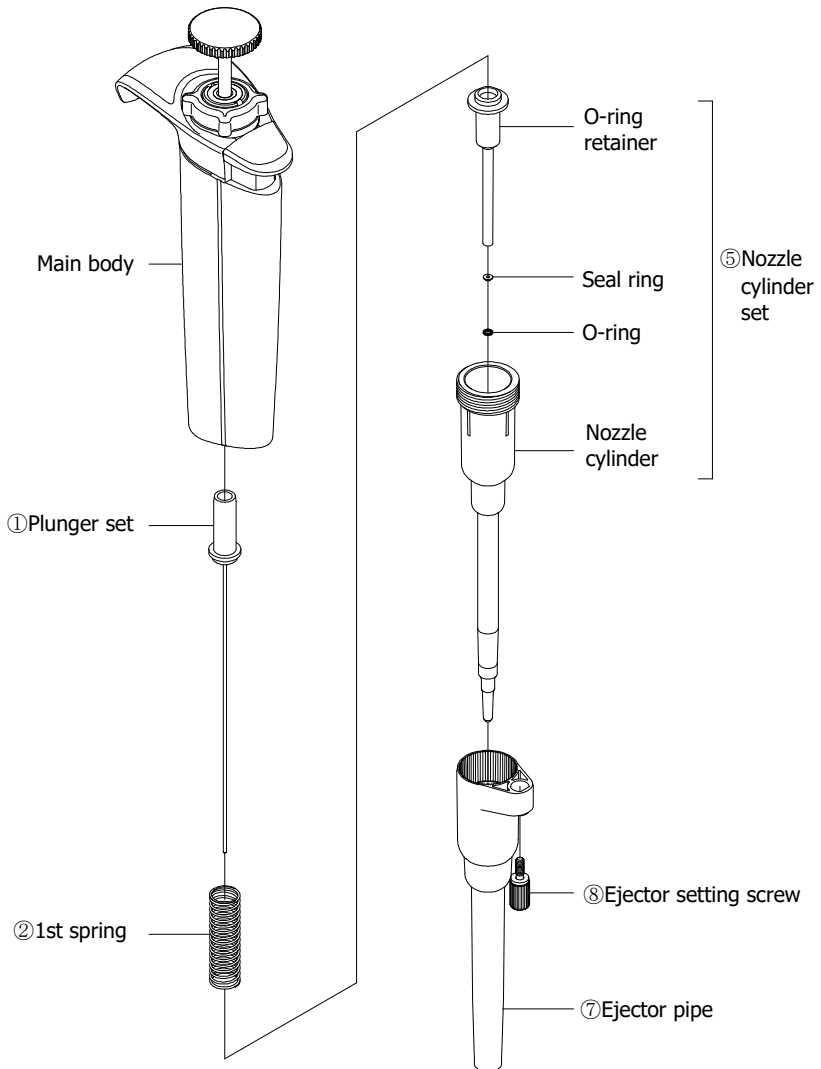
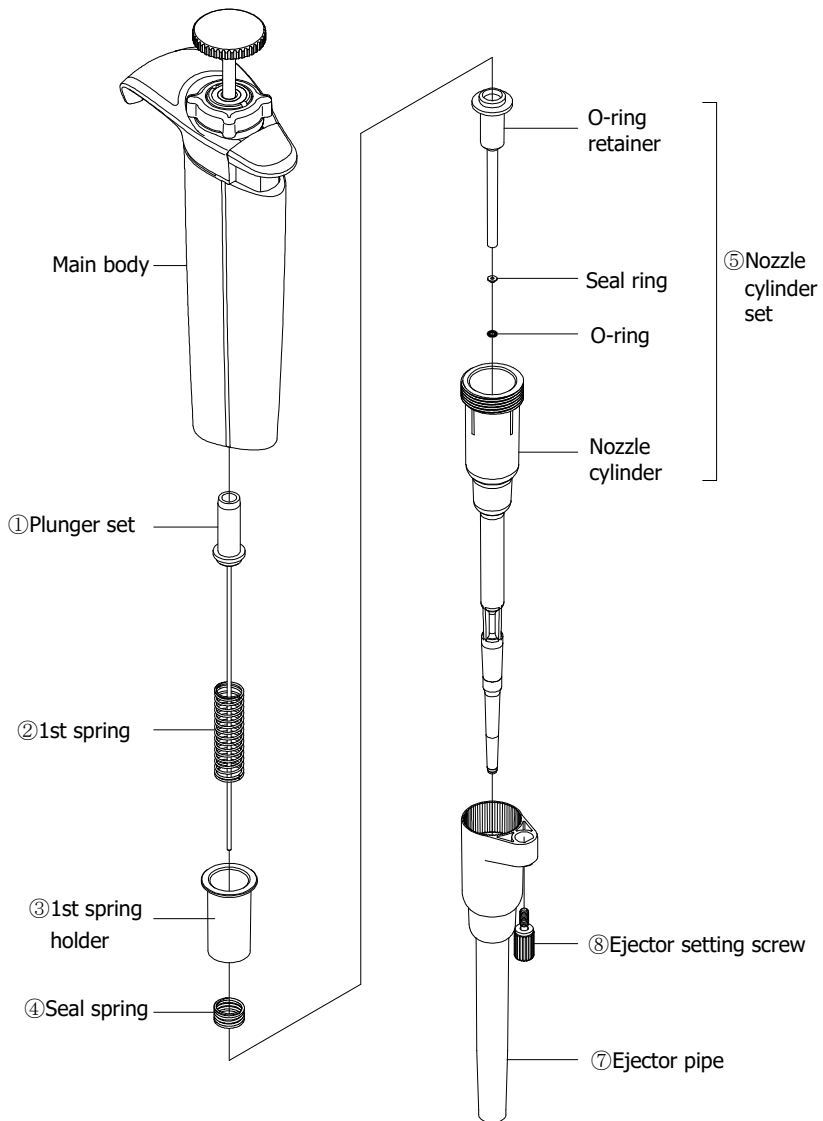
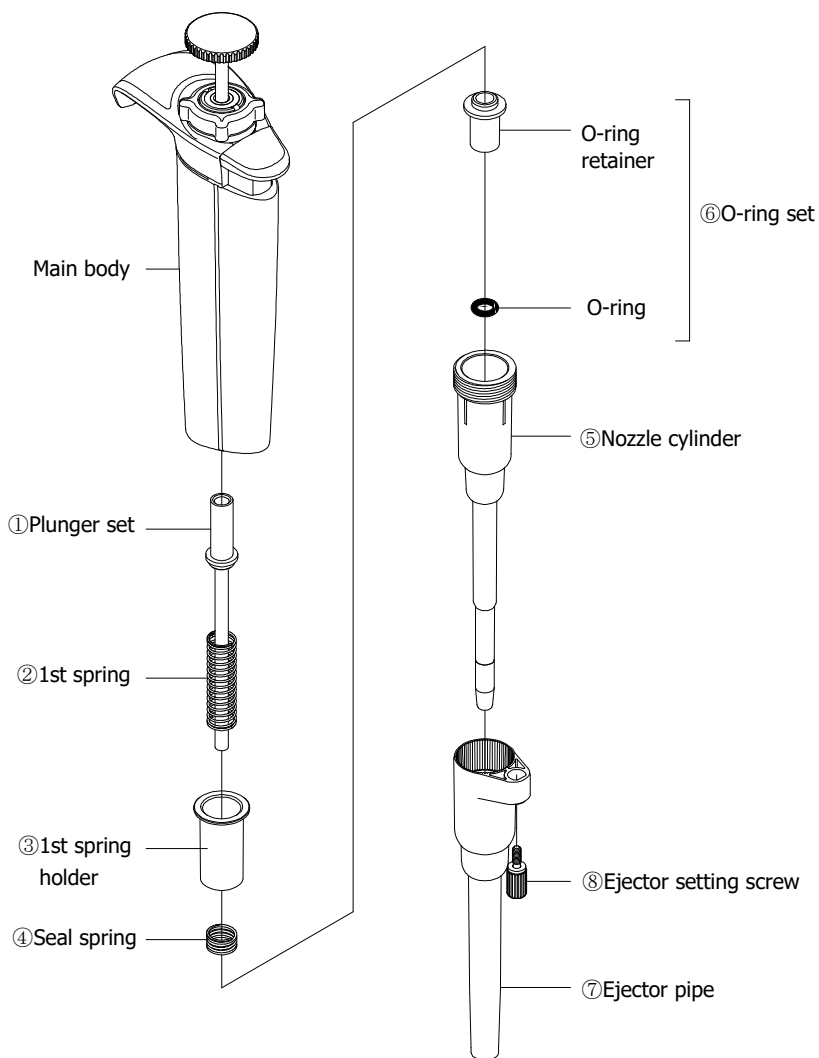
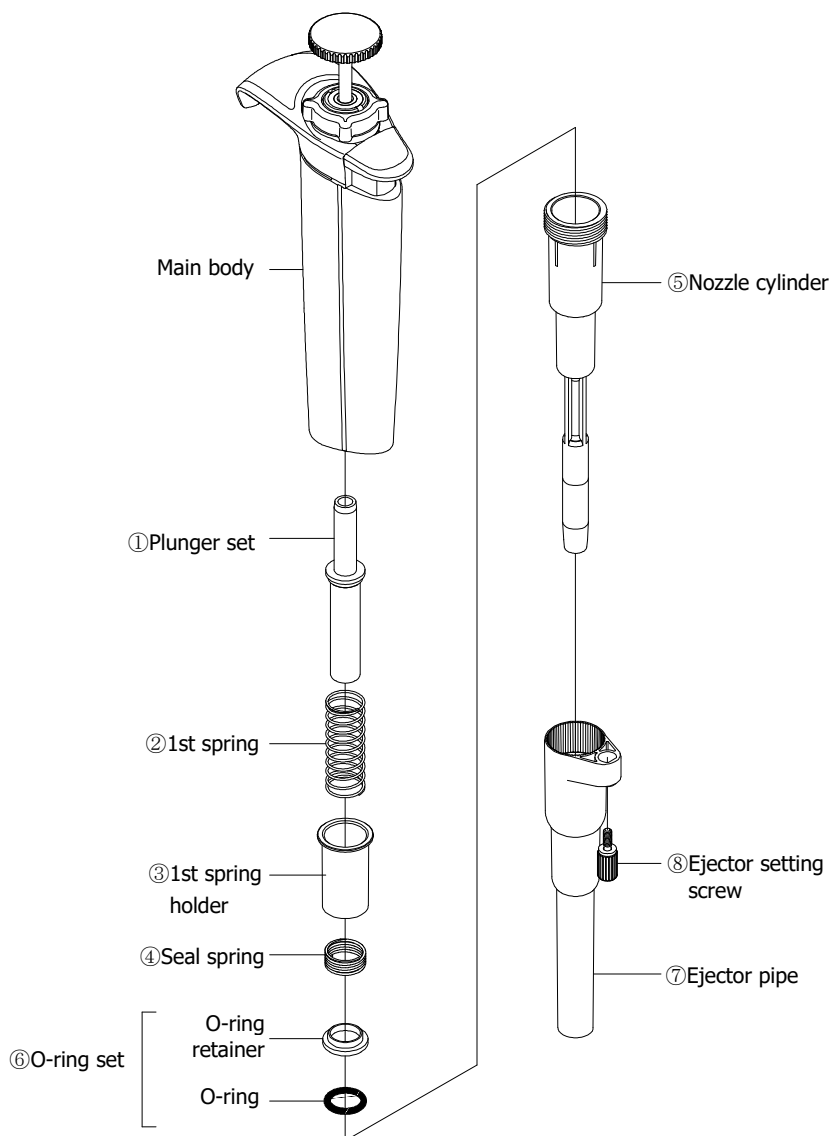

Fig. H1
Fig. H2
Fig. H3
Fig. H4
- 3) Disassemble the internal parts as shown in; (Fig. H1) for Models: 2 μ L, 10 μ L, (Fig. H2) for Models: 20 μ L, and (Fig.H3) 100 μ L and 200 μ L.
✓ There are very rare instances in which the O-ring and seal ring may come off during disassembly of the 2 μ L, 10 μ L and 20 μ L models, hence we have shown the respective parts detached and separated on (Fig. H1) and (Fig. H2).
- For models: 100µL and 200µL (Fig. H2), 1000µL (Fig. H3)
- Models: 2µL, 10µL (Fig. H1), 20µL(Fig.H2),100µL and 200µL (Fig. H3), 1000µL (Fig. H4)
Circled Numbers in (Fig. H1) corresponds to Parts Numbers in the replacement parts list.
Circled Numbers in (Fig. H2) corresponds to Parts Numbers in the replacement parts list.
Circled Numbers in (Fig. H3) corresponds to Parts Numbers in the replacement parts list.
Circled Numbers in (Fig. H4) corresponds to Parts Numbers in the replacement parts list.